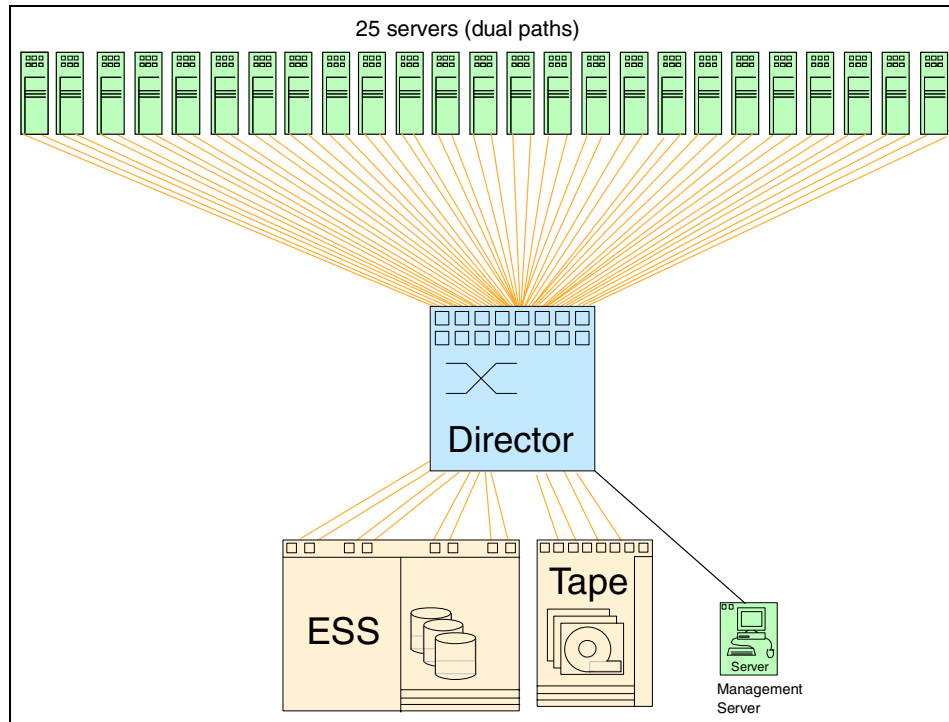
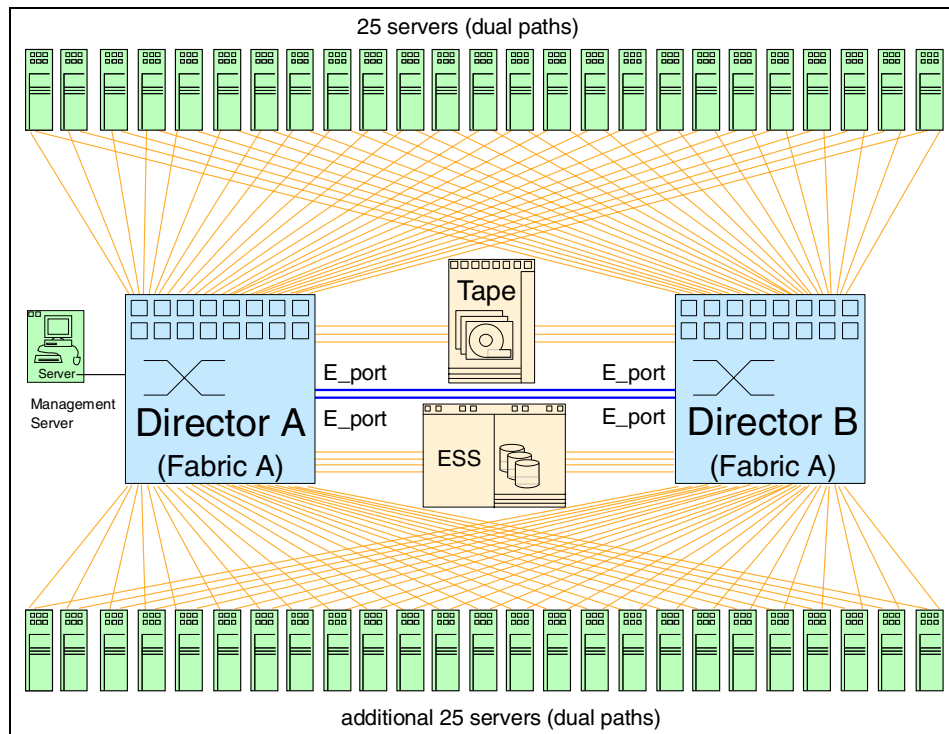

Figure 13-1 High performance design
Figure 13-2 Expanding the SAN fabric via E\_Ports
When there is little or no server performance information available, it is very difficult to work out the ratio of server ports to storage ports. The solution we show in Figure 13-1 illustrates how a general high performance profile could be applied to a SAN design using a director and a single ESS.
Based on our performance profiling, we could expand our solution and connect two directors together using dual E\_Ports, as shown in Figure 13-2. Each director now has 4 connections to the ESS and 3 connections to the tape library. We have now created a higher availability SAN that could support 100 device
These are some theoretical assumptions based on Figure 13-1:
- ▶ If the backplane was damaged, we would lose connectivity to all servers at that site. The solution in Figure 13-2 provides protection against a backplane failure.
- ▶ For both Figure 13-1 and Figure 13-2, a failure in the SAN fabric itself will cause a loss of connectivity for all devices. We can use Cisco's Virtual SAN Technology to protect against such a failure and this is discussed in the topics that follow.